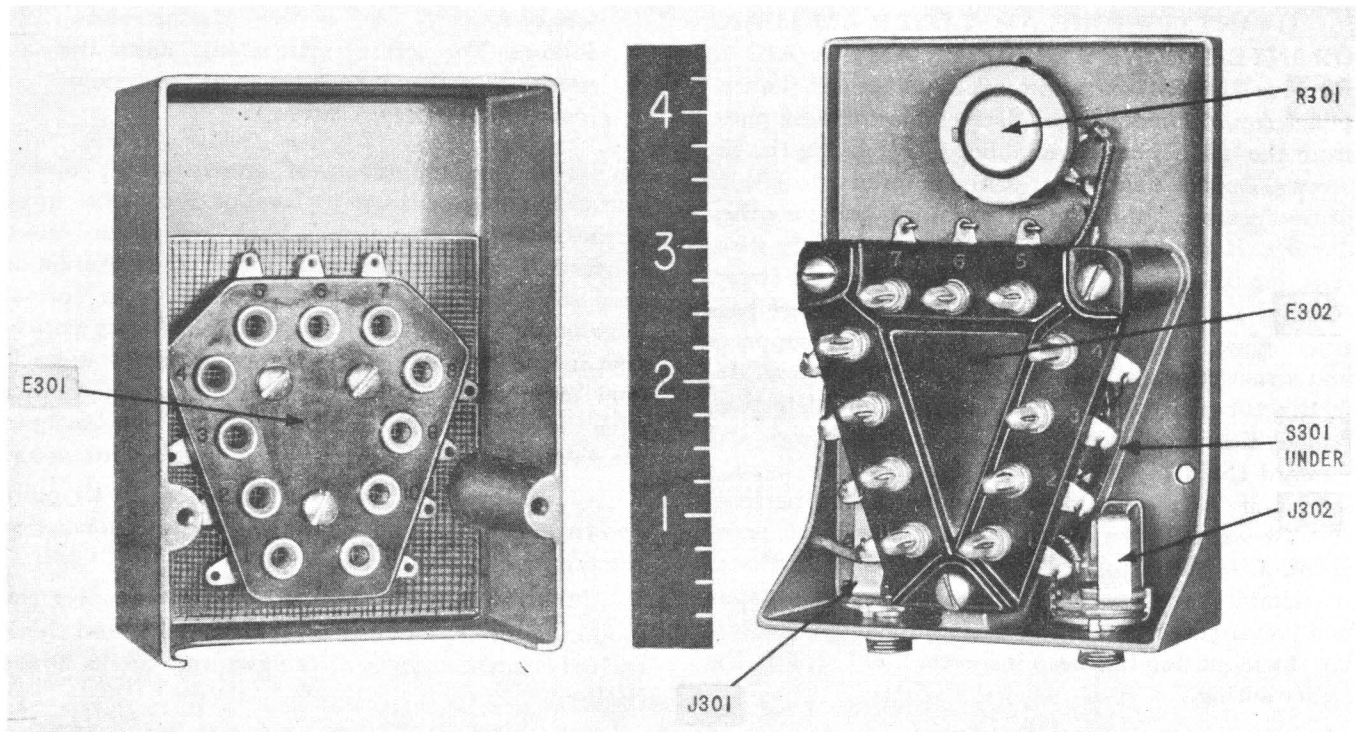

Figure 5-1. Jack Box BC-1366—Interior View of Cover and Box
(2) MOUNTING MT-28/ARN-5.—Inspect the mounting for any obvious mechanical flaws and check each shockmount for serious flaws and cracks in the rubber.
(3) JACK BOX BC-1366 OR BC-1366-M.—Remove the cover portion, and inspect the jack box interior for damage caused by vibration or moisture. Particular attention should be given to the effects of moisture on the microphone jack, Jack JK-33-A. Remove all defective jack boxes and replace with units known to be good. Return defective jack boxes to the proper agency for repair. (See figs. 5-1 and 5-2.)
(4) OTHER PARTS.—Examine the various switches, plugs, jacks, cordage, etc. and repair or replace defective items.